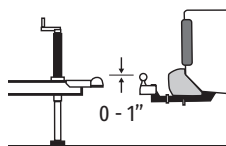
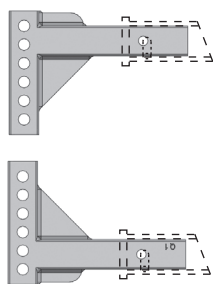

Figure 2
Figure 3
3. Slide the hitch head onto the shank with the top of the hitch ball between 0 – 1" above the top of the trailer coupler. (Figure 2) In some cases you may need to turn the shank upward or use a bigger rise/drop Fastway shank to place the hitch ball at the correct height. (Figure 3)